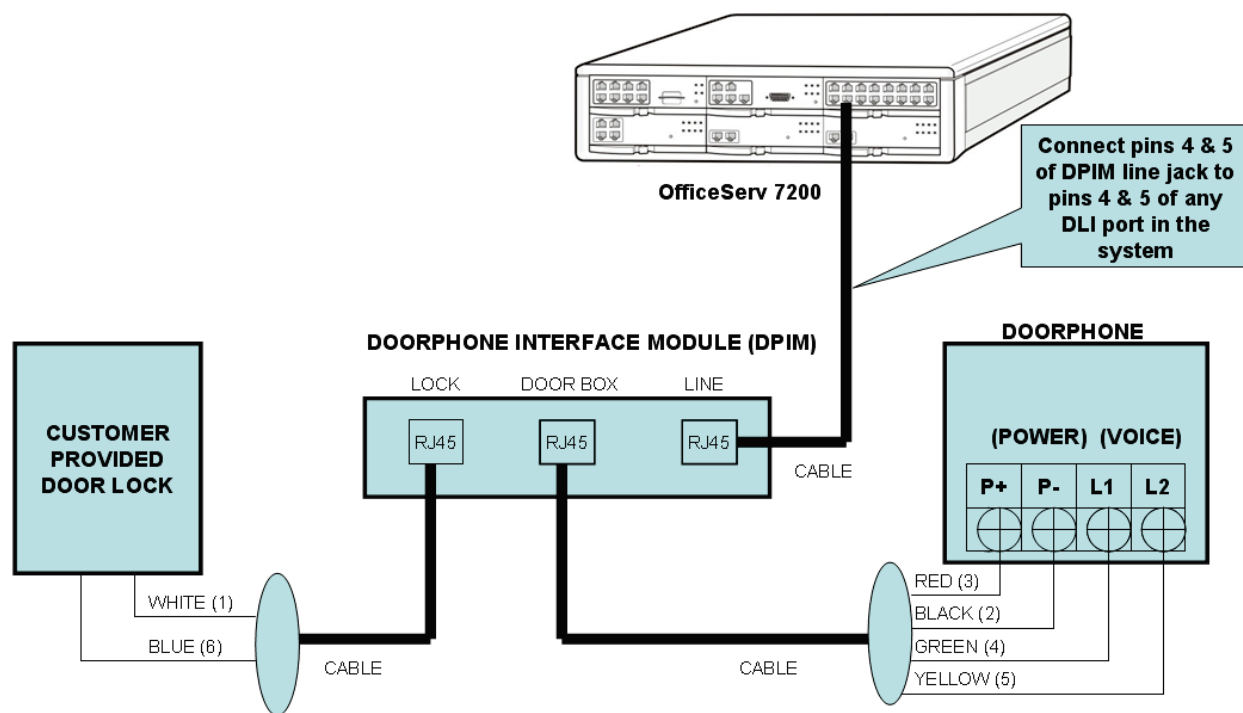

Figure 7.8 Connecting a Door Phone and a Door Lock
- 1) Connect the Door Phone Interface Module (DPIM) line jack to any DLI port in the OfficeServ 7200-S system using twisted pair (24AWG/26AWG). Use MMC 221 to assign a directory number to the doorphone. See figure 7.8.
- 2) Connect the Door Phone to the DPIM-door box jack using 4 conductor twisted pair cable. See figure 7.8 for power and voice pair pin assignments.
- 3) If required connect a custom provided door lock to the lock contact pair on the DPIM using twisted pair wire (24/26 AWG) as indicated in figure 7.8.